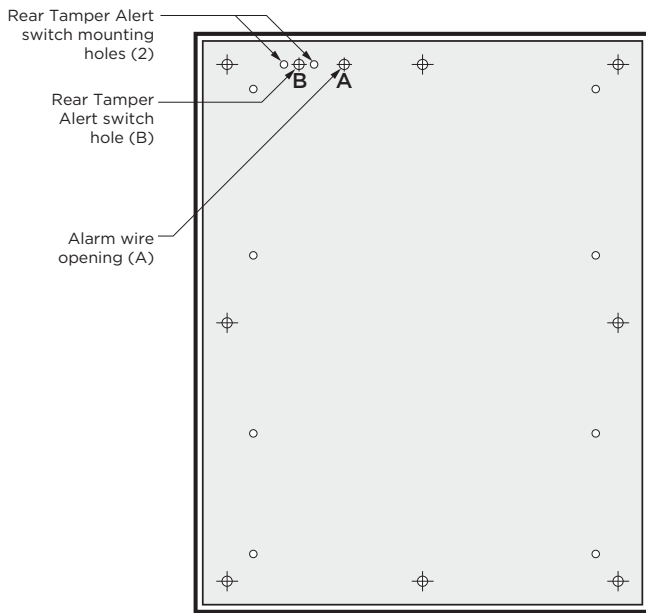

Figure 1: Inside View
2. Position the cabinet on wall so wires from alarm panel protrude into cabinet through hole (A) in back plate. See Figures 1 and 3.
Rear Tamper Alert switch: Align rear Tamper Alert plunger in back plate, hole (B), as shown in Figure 1 and 3. Check length of plunger and, if necessary, adjust plunger screw to give proper travel. Check plunger contact by GENTLY pressing the bracket flush against the back plate.